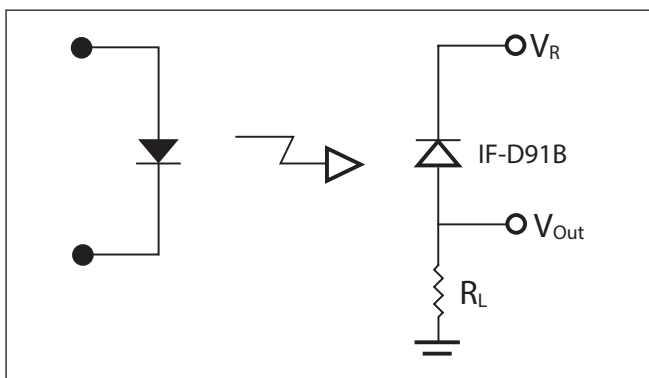

FIGURE 2. Circuit diagram for measuring rise and fall times.
3. We could change the circuit from the basic resistor (Figure 2) to the transimpedance amplifier (Figure 5).
The circuit shown in Figure 2 can be used for low frequency applications. The output is given by  $V_{OUT} = P_{IN} \times R \times R_L$ . Where  $P_{IN}$  is the power into the IF-D91B and  $R$  is the responsivity at the wavelength used. The bandwidth is limited by the IF-D91B capacitance, the circuit capacitance and  $R_L$ ,